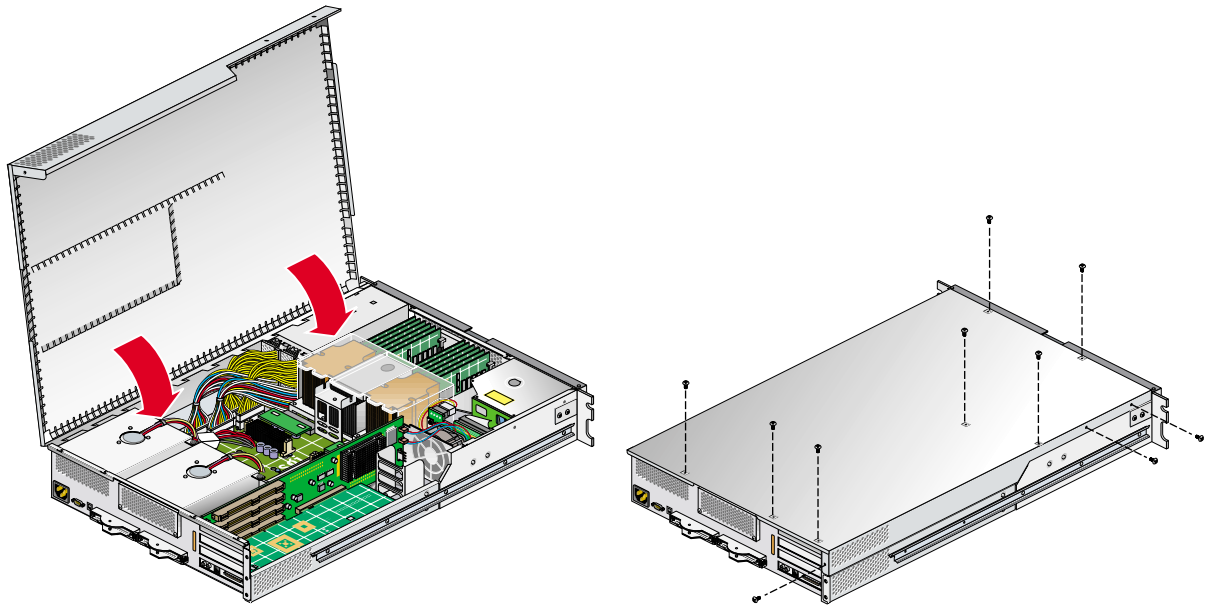

Figure 4-17 Close and Screw Down Cover
16. Close the hinged cover on the system and screw in the ten Phillips screws to secure the cover, as shown in Figure 4-17.
6. Close the hinged cover on the graphics module and screw in the ten Phillips screws to secure the cover, (reference Figure 4-17 for an example).